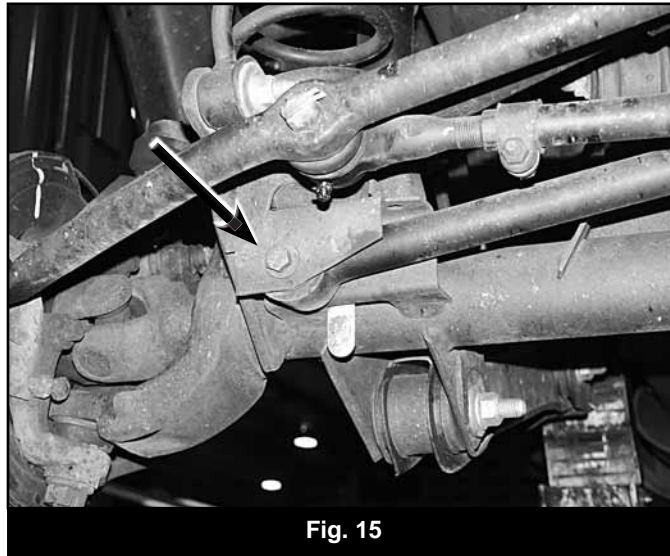

Fig. 15
35. Remove track bar by disconnecting at axle (Fig 15 - retain hardware) and frame mount by removing cotter pin and nut. Use a pickle fork to dislodge the track bar from the frame mount. Disconnect the track bar from the axle.